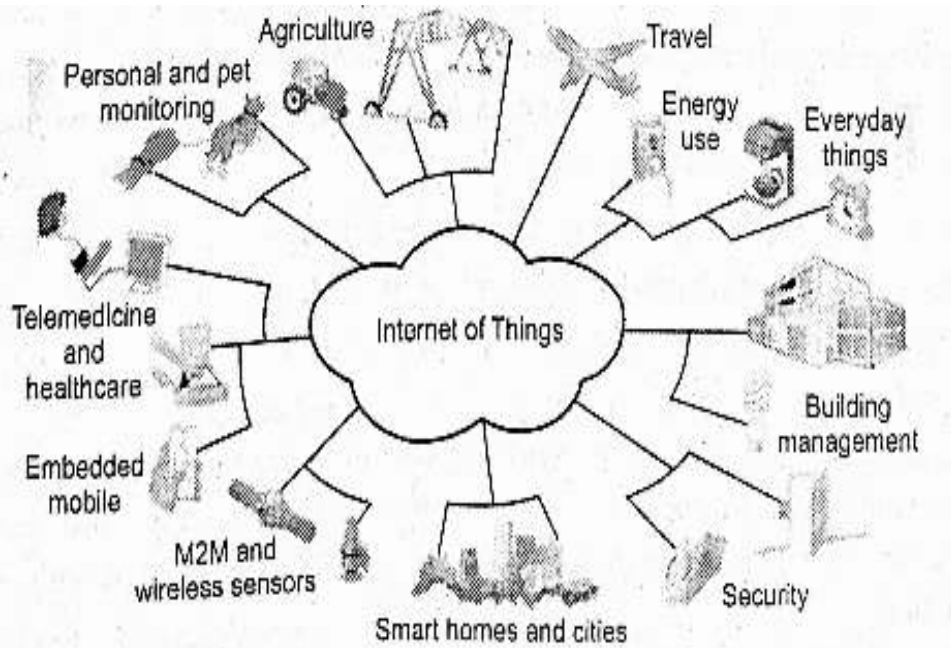

Fig. 1.5 IoT devices
3. Examples of IoT devices encompass smart clothing, smartwatches, wearable sensors, LED lights, and automotive applications, illustrated in Fig. 1.5.